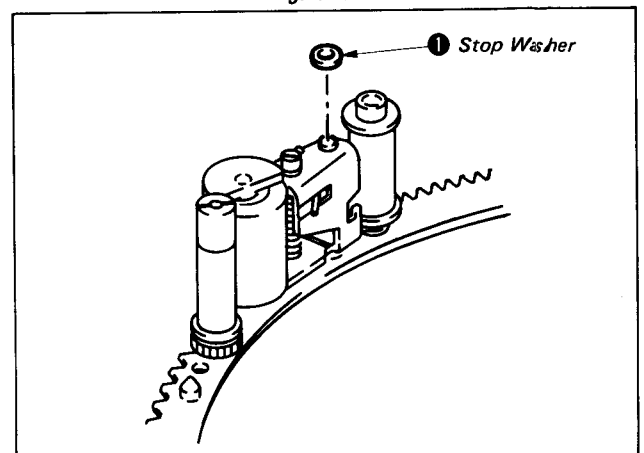

Fig. 1-28
- 5) Remount the stop washer **1**. (See Fig. 1-28.)